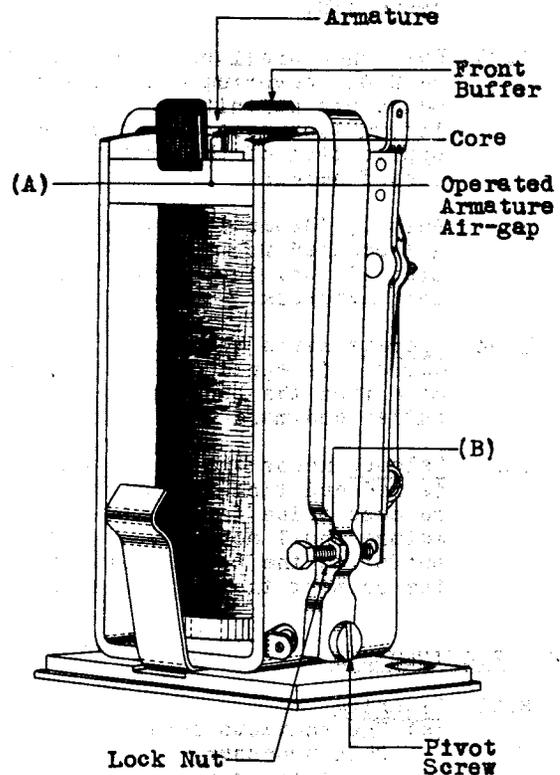

Fig. 4
2.10 Operated Armature Air-gap - Fig. 4 (A) - There shall be a clearance between the armature and the core measured at the closest point when the armature is resting against the front buffer of Min. .004" Use the No. 74-D gauge.
2.13 Tightness of Lock Nut - Fig. 4 (B) - The lock nut on the contact screw shall be sufficiently tight to hold the screw in the adjusted position. Gauge by feel.